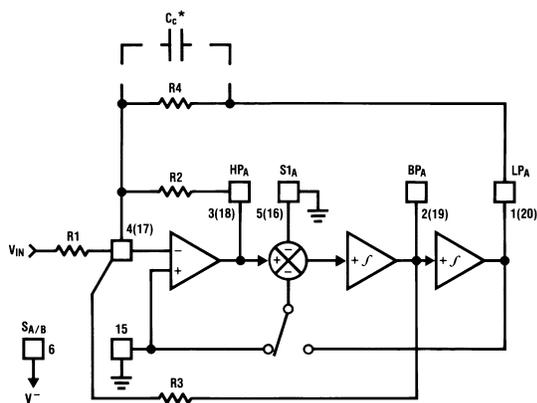

Figure 44. MODE 3
**8.4.1.5 MODE 3: Highpass, Bandpass, Lowpass Outputs (See Figure 44)**